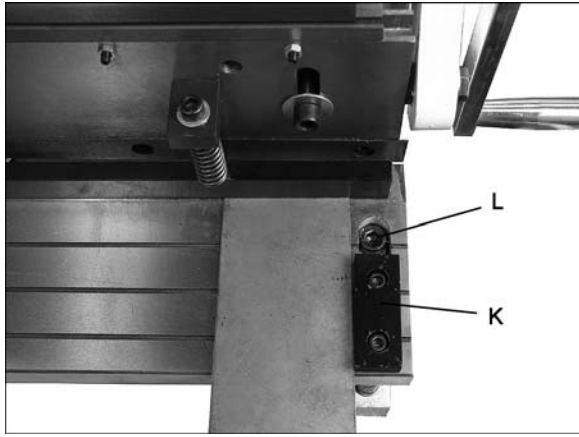

Figure 8
2. Place workpiece against guide block at right edge of table (K, Figure 8). The end of workpiece should be against guide plate.
2. If the shear does not cut the paper, loosen screw (L, Figure 8) at each end of table, with 8mm hex key.